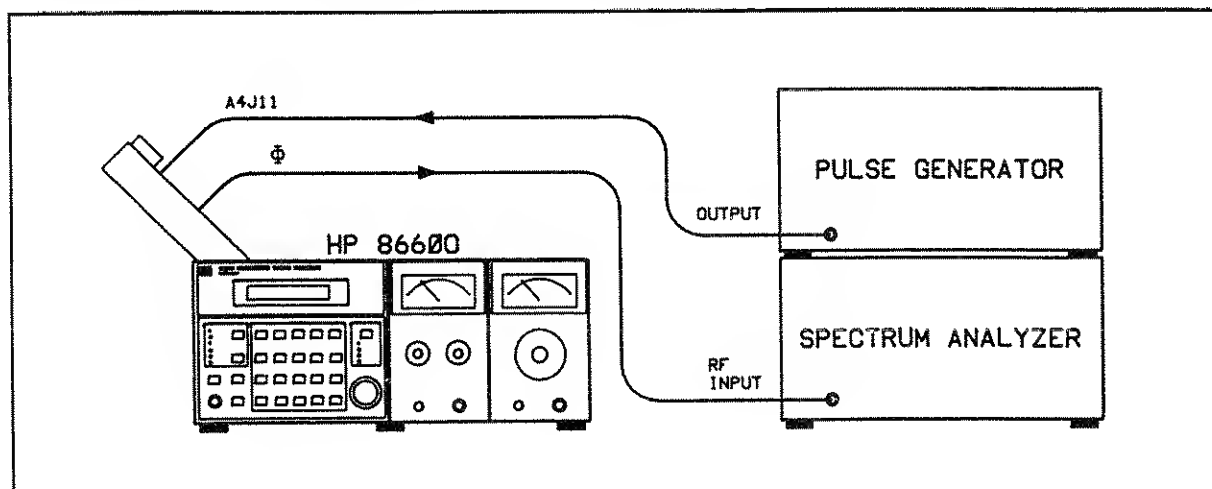

Figure 5-11. Phase Detector Response Adjustment Test Setup
1. Set up test equipment as shown in Figure 5-11.